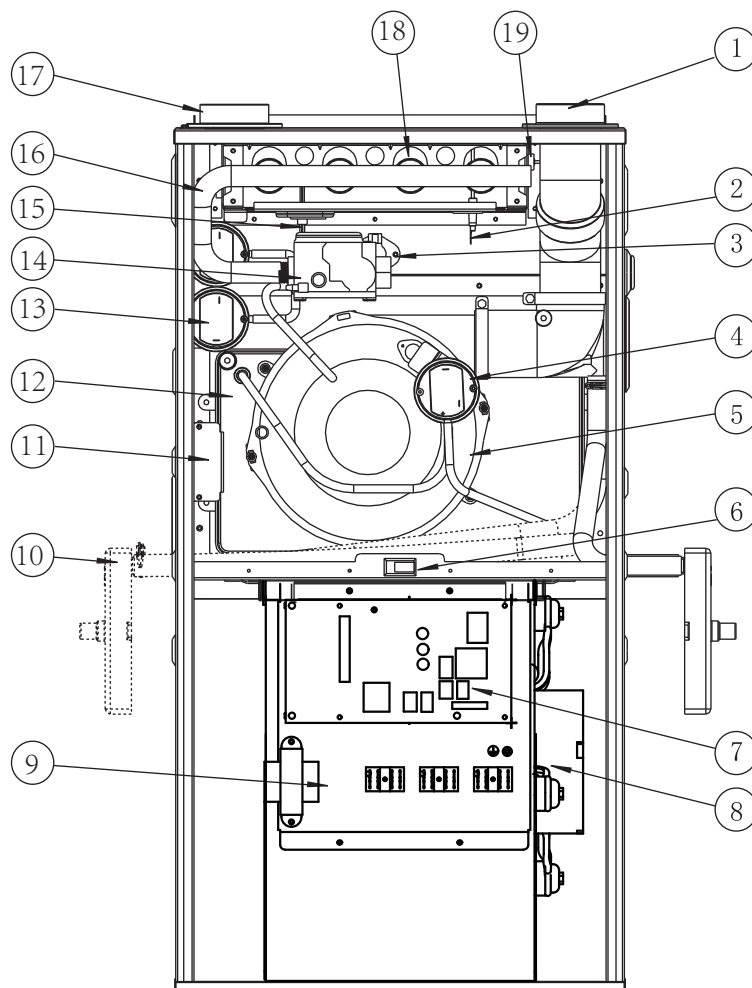

Fig. 38 Component Identification
- Parts are available from your distributor. (See Fig . 38)